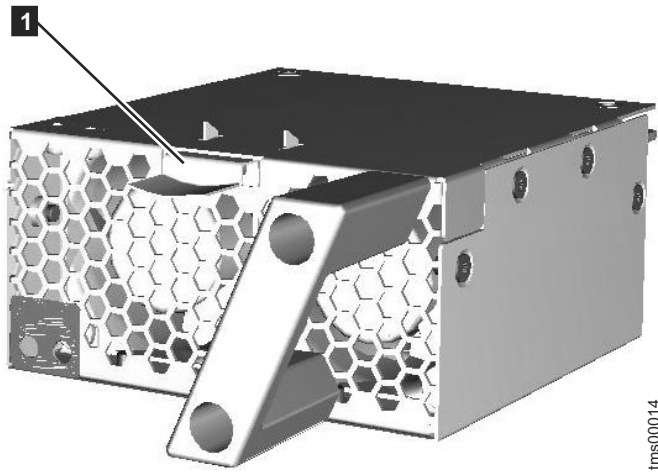

Figure 18. Fan module
3. To remove a fan module, press the release latch shown in Figure 18 on page 51, and then grip the handle and slide the fan module out of the canister.